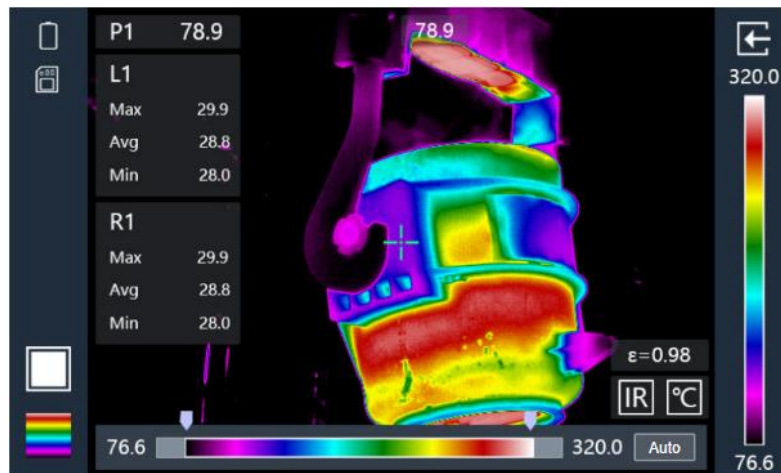

Figure 4.6 Dynamic adjustment mode of temperature width
Step 4: Return to the real-time screen, touch and click  above the temperature width, can enter the dynamic adjustment mode of temperature width (see Figure 4.6);